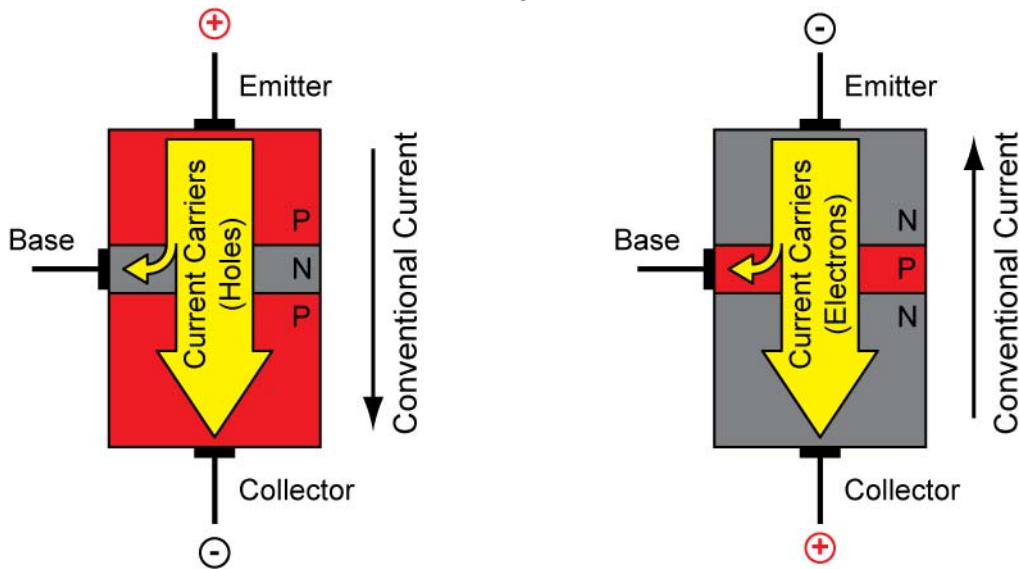

Figure 15: Current through a PNP and an NPN Transistor
- Most of the current carriers coming from the emitter and entering the base are attracted to the collector and pass right through the base. Only a small portion of the emitter current carriers flow into the base lead. See Figure 15.